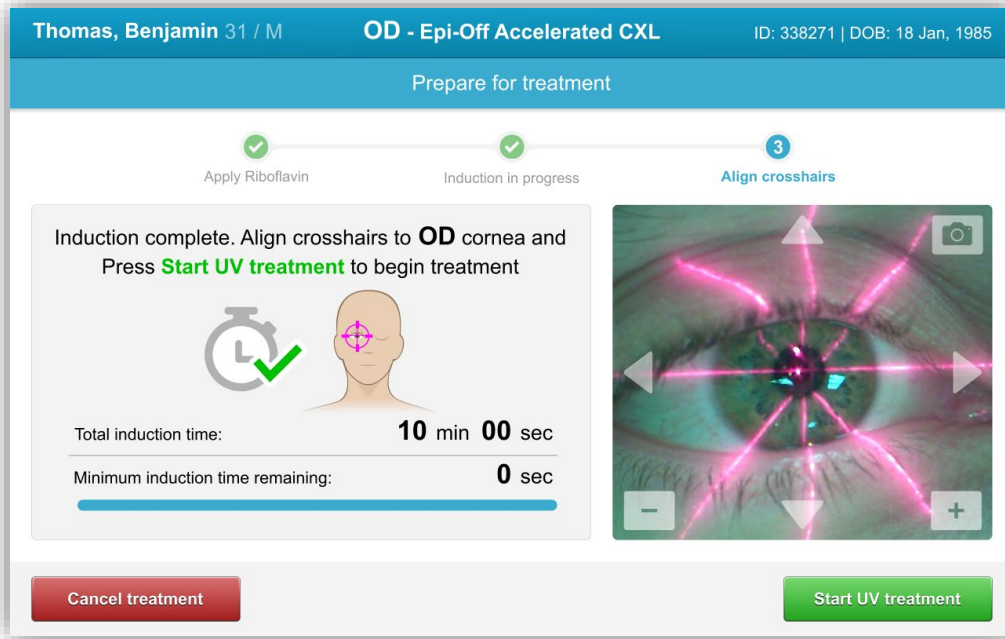

Figure 3-26. Start UV Treatment
- Once the Riboflavin application, Induction, and Alignment of Crosshairs are complete, initiate treatment by pressing the “Start UV treatment” button as shown in Figure 3-26.